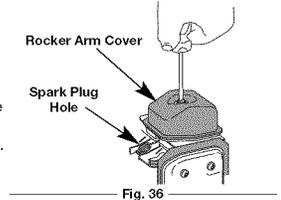

Fig. 36
- Clean dirt from around the rocker arm cover. Remove the screw holding the rocker arm cover with a large flat blade screwdriver or Torx T-25 bit (Fig. 36). Remove the rocker arm cover and gasket.
- The piston is at the top of its travel while looking in the spark plug hole (Fig. 36).